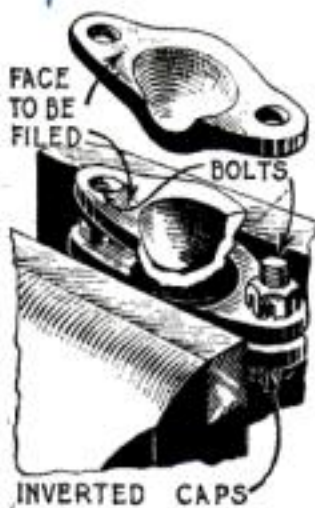

Fig. 1. Filing a ball-socket cap
**F**INDING it next to impossible to clamp a ball-socket cap in a vise for filing, I made a convenient holder out of two old caps and two bolts, as shown in Fig. 1. The old caps are gripped in the vise and the one to be filed is laid over them. If no vise is at hand, the cap and holder can be rubbed over a file lying flat on the bench.—LAWRENCE TORELL.